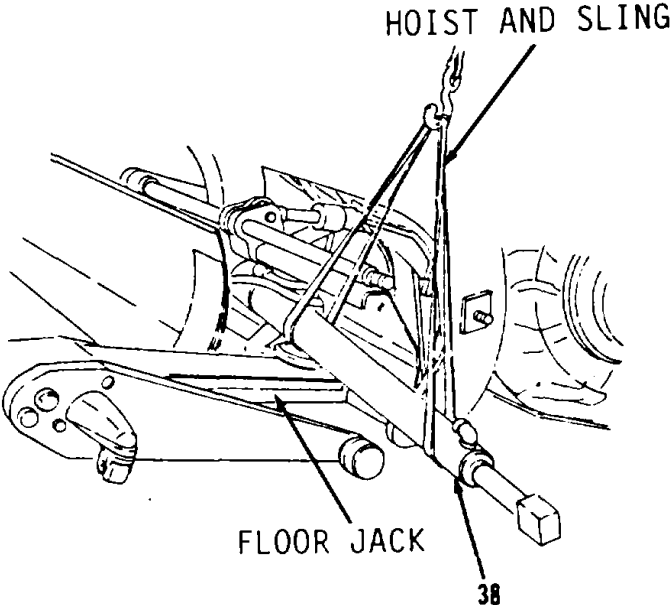

Figure 10-144.
- 21. Attach hoist and sling to cylinder (38).
- 22. Using hoist and sling, remove cylinder (38, Figure 10-144). Support with floor jack.
2. Using hoist and sling, position cylinder (38, Figure 10-144). Support with floor jack.